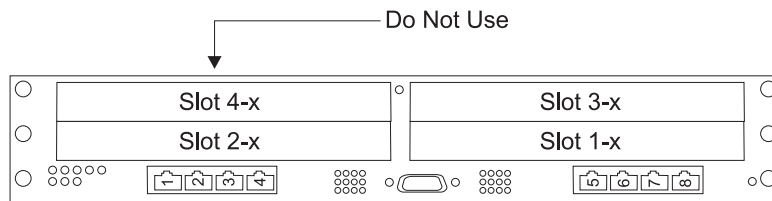

Figure 1-3. Slot Restrictions
- The MSS Client cannot be installed in slots 2 and 4 of the 8272 LAN Switch Module, FN 6308. See Figure 1-3.